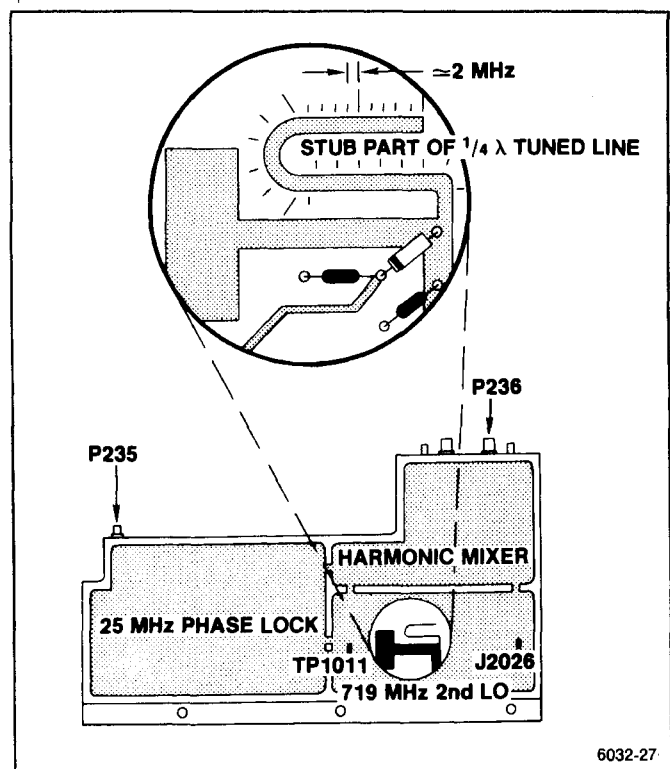

Figure 6-12. 829 MHz LO test points and connectors.
- b. The 2nd LO range is 714.5 MHz to 723.5 MHz (with the cover off). 719 MHz is the optimum center frequency. Frequency of the oscillator is controlled by the Tune Volts from the 25 MHz Phase Lock circuit (located at TP1011) which varies from +5 V (low end) to +11.9 V (high end) with +6.75 V to +7.5 V as the limits for operation at 719 MHz. Set the digital voltmeter to measure 12 V then connect it between TP1011 (Figure 6-12) and ground.
- c. Disconnect the 100 MHz reference from the 3rd Converter by unplugging P235 (Figure 6-12). The oscillator should go to its upper limit and the voltmeter indicate about 11.9 V.
- e. Minor adjustments to the oscillator frequency are made by shortening the U-shaped transmission line stub, off the main line. Graduation marks (see Figure 6-12) along the side of the stub provide a guide to calculate frequency correction. Each minor mark from the end or cut across the stub, represents an approximate change of 2 MHz.